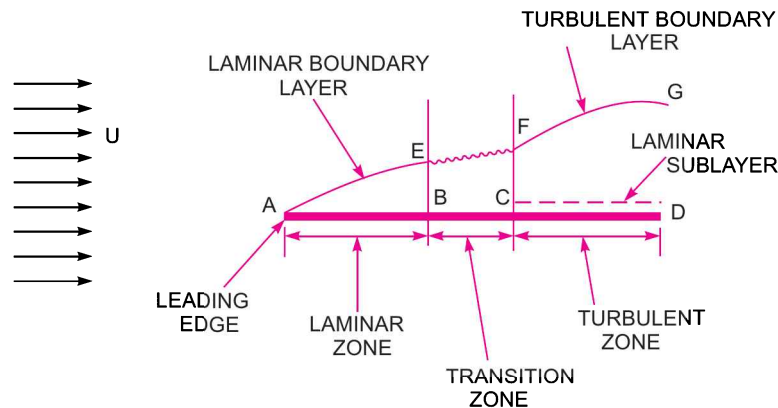

Fig. 13.2 Flow over a plate.
13.2.1 Laminar Boundary Layer. For defining the boundary layer (*i.e.*, laminar boundary layer or turbulent boundary layer) consider the flow of a fluid, having free-stream velocity (U), over a smooth thin plate which is flat and placed parallel to the direction for free stream of fluid as shown in Fig. 13.2. Let us consider the flow with zero pressure gradient on one side of the plate, which is stationary.
The velocity of fluid on the surface of the plate should be equal to the velocity of the plate. But plate is stationary and hence velocity of fluid on the surface of the plate is zero. But at a distance away from the plate, the fluid is having certain velocity. Thus a velocity gradient is set up in the fluid near the surface of the plate. This velocity gradient develops shear resistance, which retards the fluid. Thus the fluid with a uniform free stream velocity (U) is retarded in the vicinity of the solid surface of the plate and the boundary layer region begins at the sharp leading edge. At subsequent points downstream the leading edge, the boundary layer region increases because the retarded fluid is further retarded. This is also referred as the growth of boundary layer. Near the leading edge of the surface of the plate, where the thickness is small, the flow in the boundary layer is laminar though the main flow is turbulent. This layer of the fluid is said to be laminar boundary layer. This is shown by AE in Fig. 13.2. The length of the plate from the leading edge, upto which laminar boundary layer exists, is called laminar zone. This is shown by distance AB . The distance of B from leading edge is obtained from Reynold number equal to 5×10^5 for a plate. Because upto this Reynold number the boundary layer is laminar. The Reynold number is given by $(R_e)_x = \frac{U \times x}{\nu}$
13.2.2 Turbulent Boundary Layer. If the length of the plate is more than the distance x , calculated from equation (13.1), the thickness of boundary layer will go on increasing in the downstream direction. Then the laminar boundary layer becomes unstable and motion of fluid within it, is disturbed and irregular which leads to a transition from laminar to turbulent boundary layer. This short length over which the boundary layer flow changes from laminar to turbulent is called transition zone. This is shown by distance BC in Fig. 13.2. Further downstream the transition zone, the boundary layer is turbulent and continues to grow in thickness. This layer of boundary is called turbulent boundary layer, which is shown by the portion FG in Fig. 13.2.
13.2.3 Laminar Sub-layer. This is the region in the turbulent boundary layer zone, adjacent to the solid surface of the plate as shown in Fig. 13.2. In this zone, the velocity variation is influenced only by viscous effects. Though the velocity distribution would be a parabolic curve in the laminar sub-layer zone, but in view of the very small thickness we can reasonably assume that velocity variation is linear and so the velocity gradient can be considered constant. Therefore, the shear stress in the laminar sub-layer would be constant and equal to the boundary shear stress τ_0 . Thus the shear stress in the sub-layer is